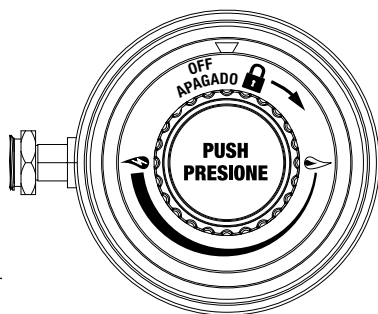

Figure 2
1. Make sure the regulator/control knob is in the “OFF  ” position (Figure 2).
1. Turn the regulator/control knob to the “OFF  ” position (Figure 2).
2. Make sure regulator/control knob is in the “OFF  ” position (Figure 2).
1. Turn regulator/control knob to the “OFF  ” position (Figure 2).